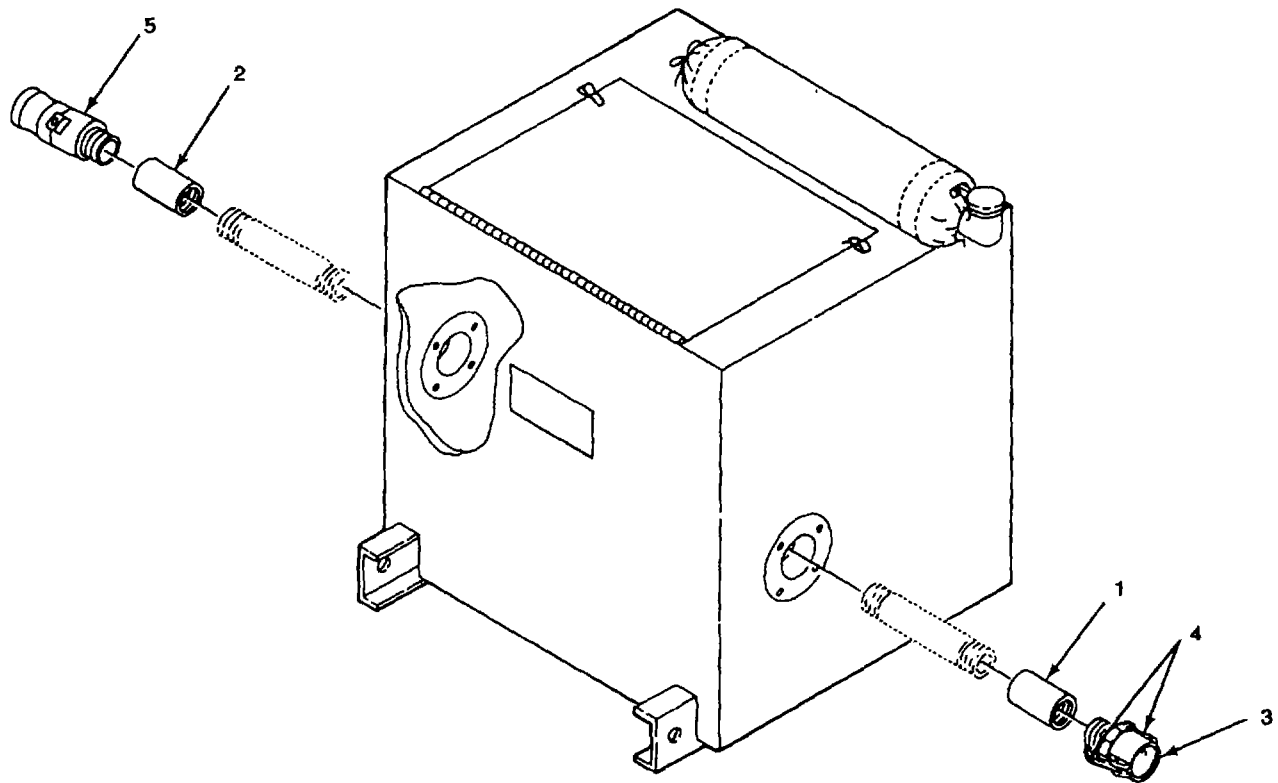

Figure 2-23. 125 GPM Pump
- (3) Connect female end of reducer (2) to male fitting on storage tank fitting (3). Close cam arms (4).
- (4) Push cam arms (5) on 2 in. X 20 ft rigid-walled suction hose (1) forward to open position.
- (5) Connect hose (1) to reducer (2) attached to storage tank fitting (3). Close cam arms (5).
- (6) Locate suction and discharge ports (1 and 2, Figure 2-23) on 125 GPM pump.